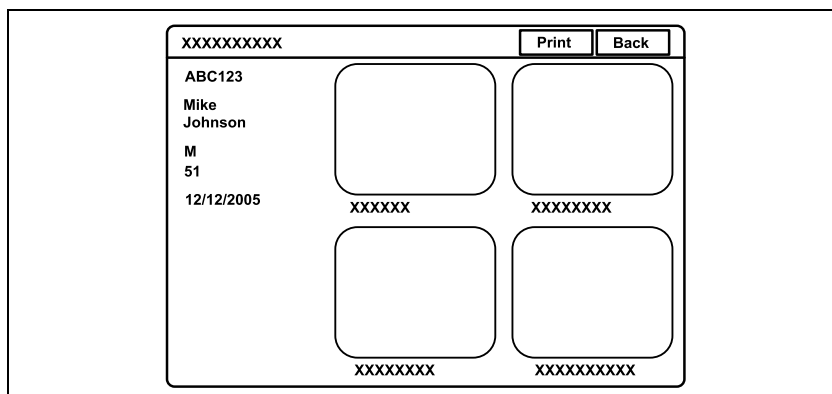

Figure 5.74
3. Click “View” or press the “Enter” key. The annotation screen appears on the monitor (see Figure 5.74).